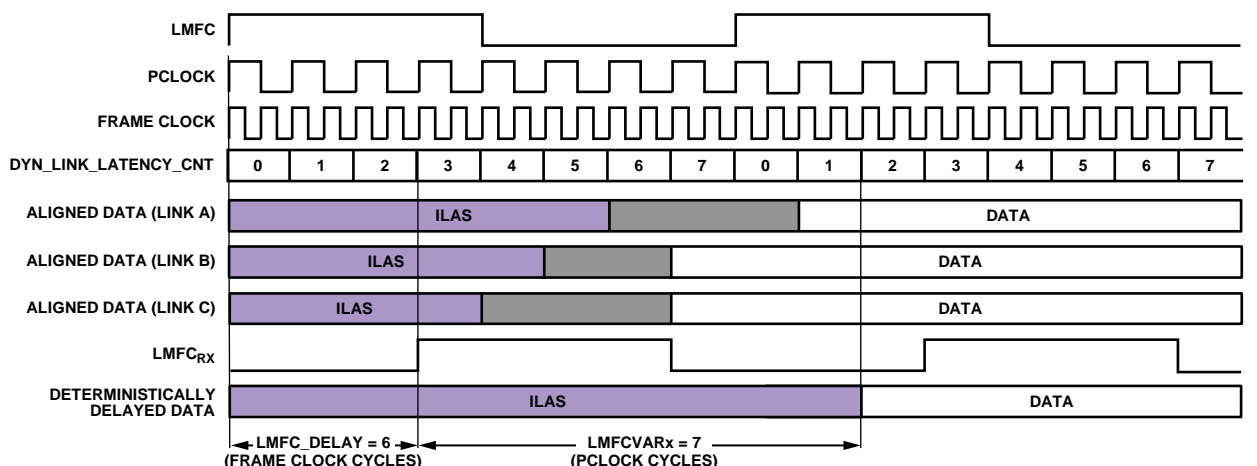

Figure 56. Multilink Synchronization Settings, Derived Method Example
Figure 56 shows how DYN_LINK_LATENCY_x (Register 0x302 and Register 0x303) provides a readback showing the delay (in PClock cycles) between LMFC_{RX} and the transition from ILAS to the first data sample. By repeatedly power-cycling and taking this measurement, the minimum and maximum delays across power cycles can be determined and used to calculate LMFCVar and LMFCDel.
The example shown in Figure 56 is demonstrated in the following steps according to the procedure outlined in the Without Known Delays section. Note that this example is in Subclass 1 to achieve deterministic latency, which has a PClockFactor (FrameClockRate/ PClkRate) of 2 and uses K = 16; therefore PClocksPerMF = 8.
1. In Figure 56, for Link A, Link B, and Link C, the system containing the AD9154 (including the transmitter) is power cycled and configured 20 times. The AD9154 is configured as described in the Device Setup Guide section. As the point of this exercise is to determine LMFCDel and LMFCVar, the LMFCDel is programmed to 0 and the DYN_LINK_LATENCY_x is read from Register 0x302 and Register 0x303 for Link 0 and Link 1, respectively. The
variation in the link latency over the 20 runs is shown in Figure 56 in gray.